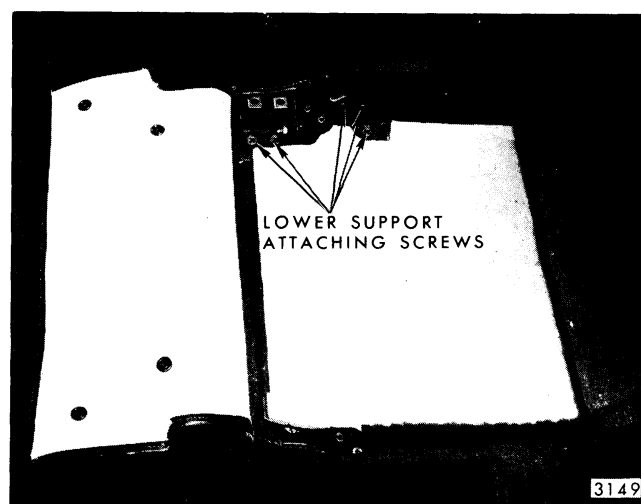

Fig. 9-60-Auxiliary Seat Lower Support - Cadillac Limousine Styles
2. Remove lower support assembly attaching screws, shown in Figure 9-60, and remove support assembly.